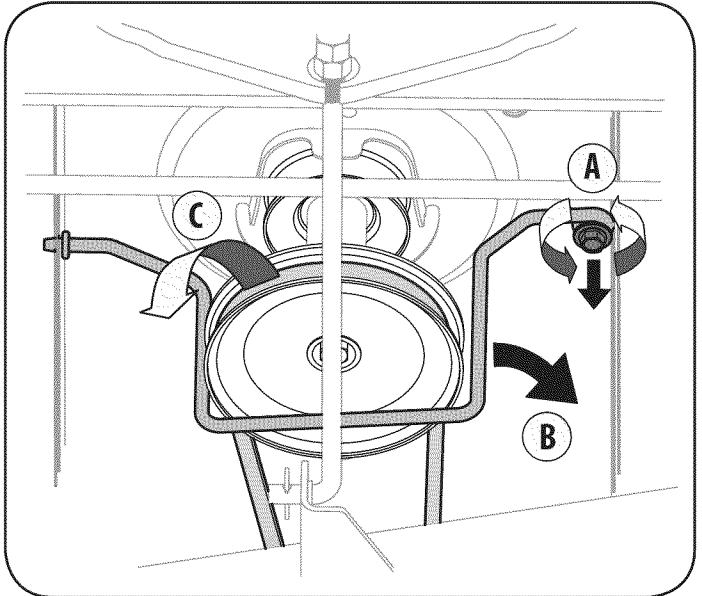

Figure 18
- Remove the self-tapping screw (A) that secures the belt-keeper rod from around the tractor's PTO pulley, then remove the belt keeper rod (B). See Figure 18.
- Remove the belt (C) from around the tractor's PTO pulley. See Figure 18.